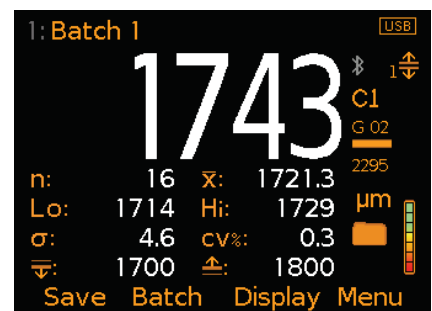

Figure 7: Selected Statistics & Readings (Model T)
- **Selected Statistics - Model T (Figure 7)**; Up to 8 statistical values can be displayed as defined by the user via Display/Statistics/Select Statistics. Select from: